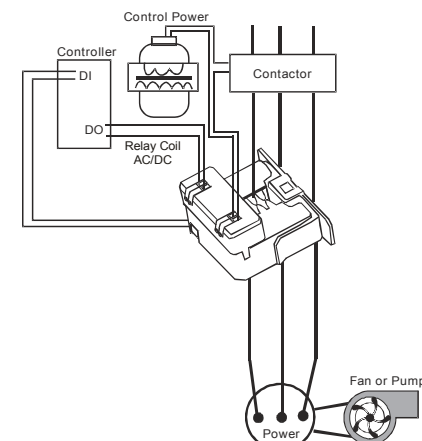

Figure 2:
3. Wire the CSC/Command Relay as shown in Figure 2.